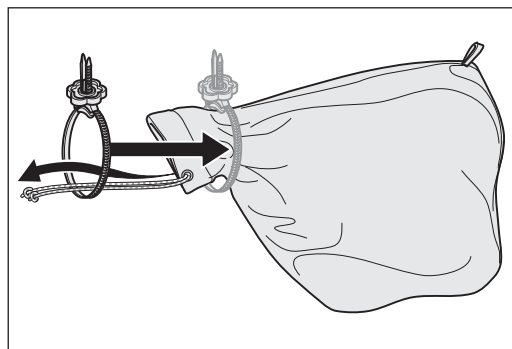

Fig. 2 Slide the MultiClip fastener over the opening of the dust bag.
- 2 Slide the MultiClip fastener over the opening of the dust bag (Fig. 2).